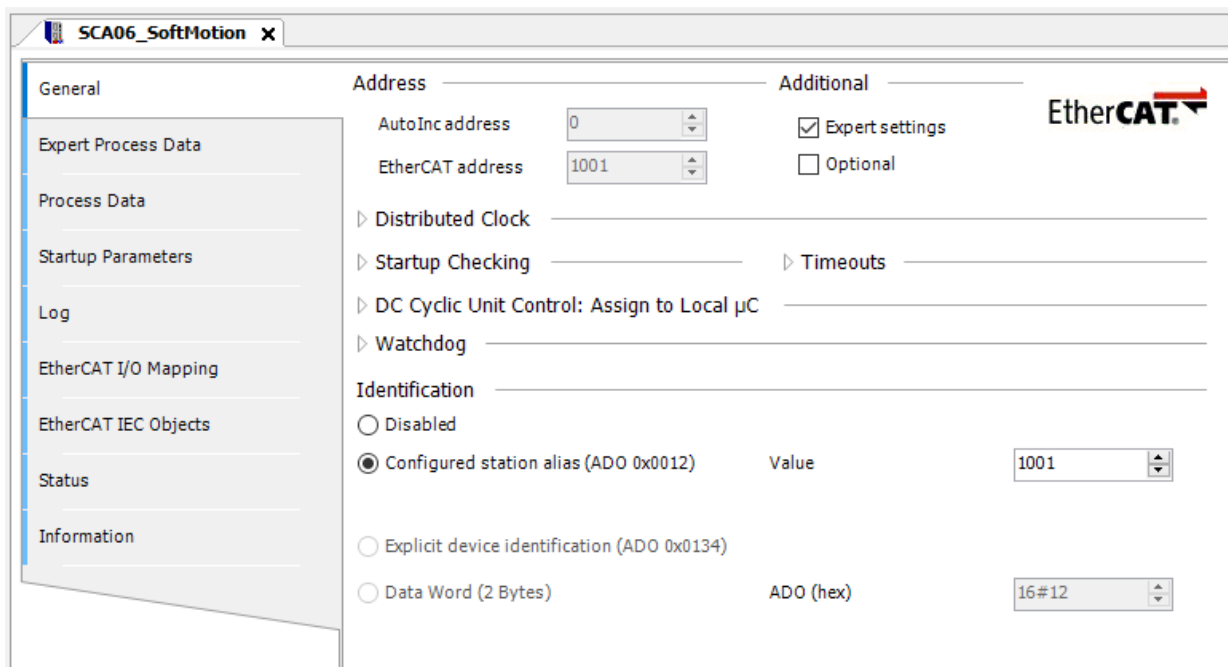

Figure 4.1: Enabling identification.
- In the **Identification** field, check **Configured station alias (ADO 0x012)**, as shown in Figure 4.1.